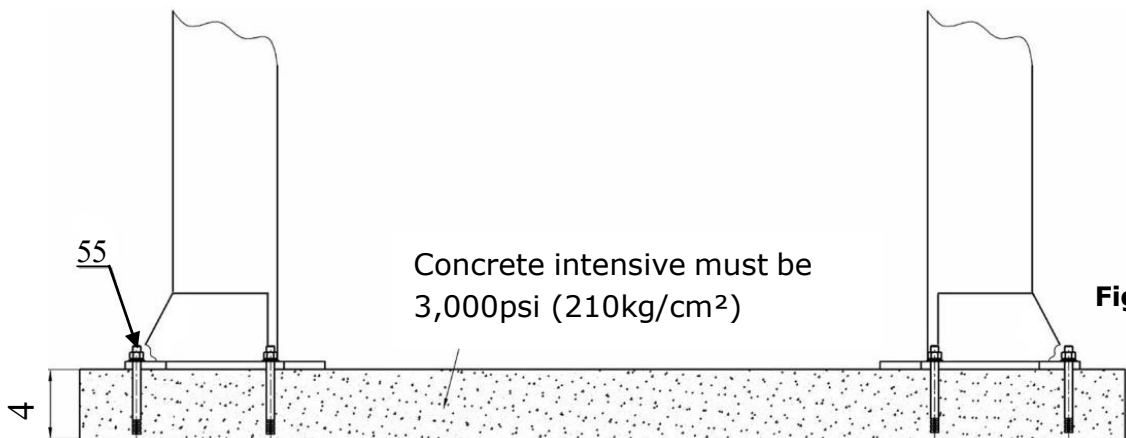

Fig.6
**D. SPECIFICATIONS OF CONCRETE (See Fig. 6)**